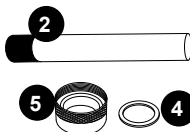

FIGURE 7
- Remove the quartz seal compression nut (5) by turning it **counterclockwise**, Figure 5. Use a pair of channel-lock pliers if needed, Figure 6. You will notice that there is a stainless steel compression washer (4) which slides over the quartz tube, save the washer (4) for later use, Figure 7.